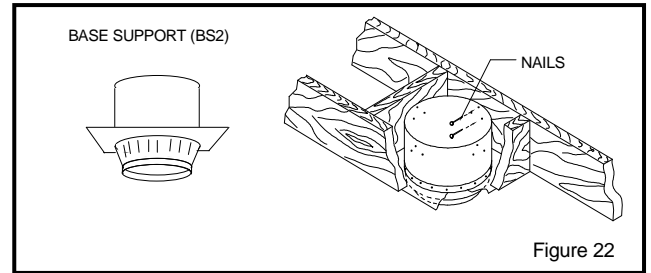

Figure 22
- 3 Nail the support to the framed box using (12) - 3" spiral nails (see Fig. 22)